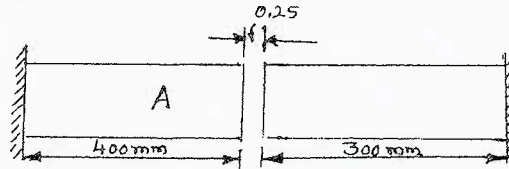

Fig. Q2 (b)
- b. At room temperature, the gap between bar A and bar B shown in Fig. Q2 (b) is 0.25 mm. What are the stresses induced in the bars, if the temperature rise is 35°C. Given,  $A_A = 1000 \text{ mm}^2$  ;  $A_B = 800 \text{ mm}^2$ ;  $E_A = 2 \times 10^5 \text{ N/mm}^2$ ;  $E_B = 1 \times 10^5 \text{ N/mm}^2$ ;  $\alpha_A = 12 \times 10^{-6} / ^\circ \text{C}$ ;  $\alpha_B = 23 \times 10^{-6} / ^\circ \text{C}$ ;  $L_A = 400 \text{ mm}$ ;  $L_B = 300 \text{ mm}$  (10 Marks)